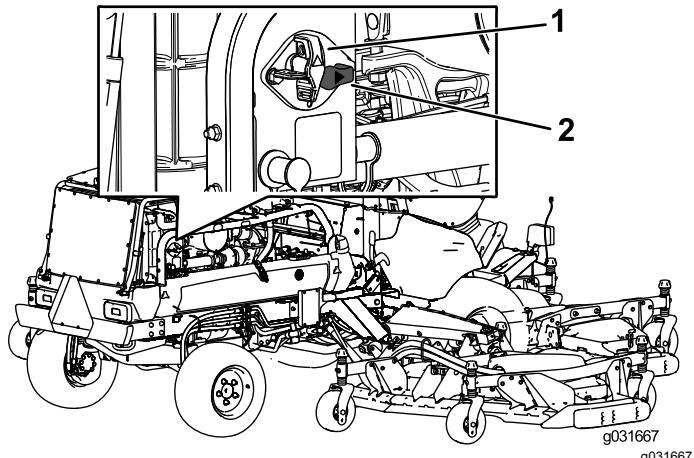

Figure 63
- To energize the machine electrically, rotate the battery-disconnect switch clockwise to the ON position (Figure 63).
- To de-energize the machine electrically, rotate the battery-disconnect switch counterclockwise to the OFF position (Figure 63).